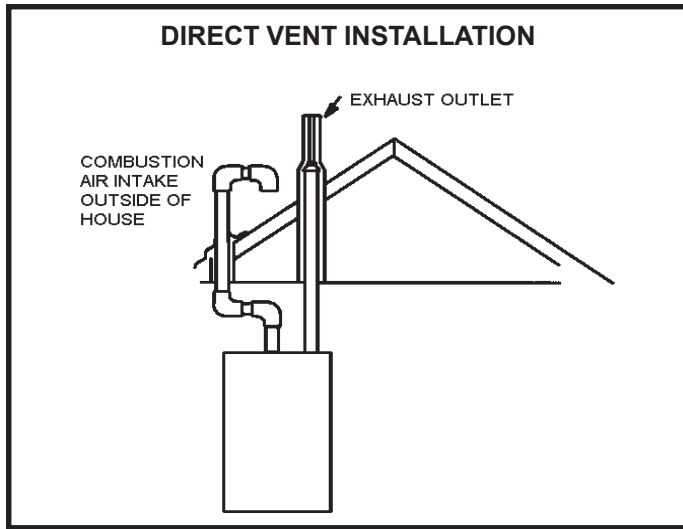

Figure 2
**NOTE:** In Direct Vent installations, combustion air is taken from outdoors and flue gases are discharged outdoors. See Figure 2 for applications including roof termination.